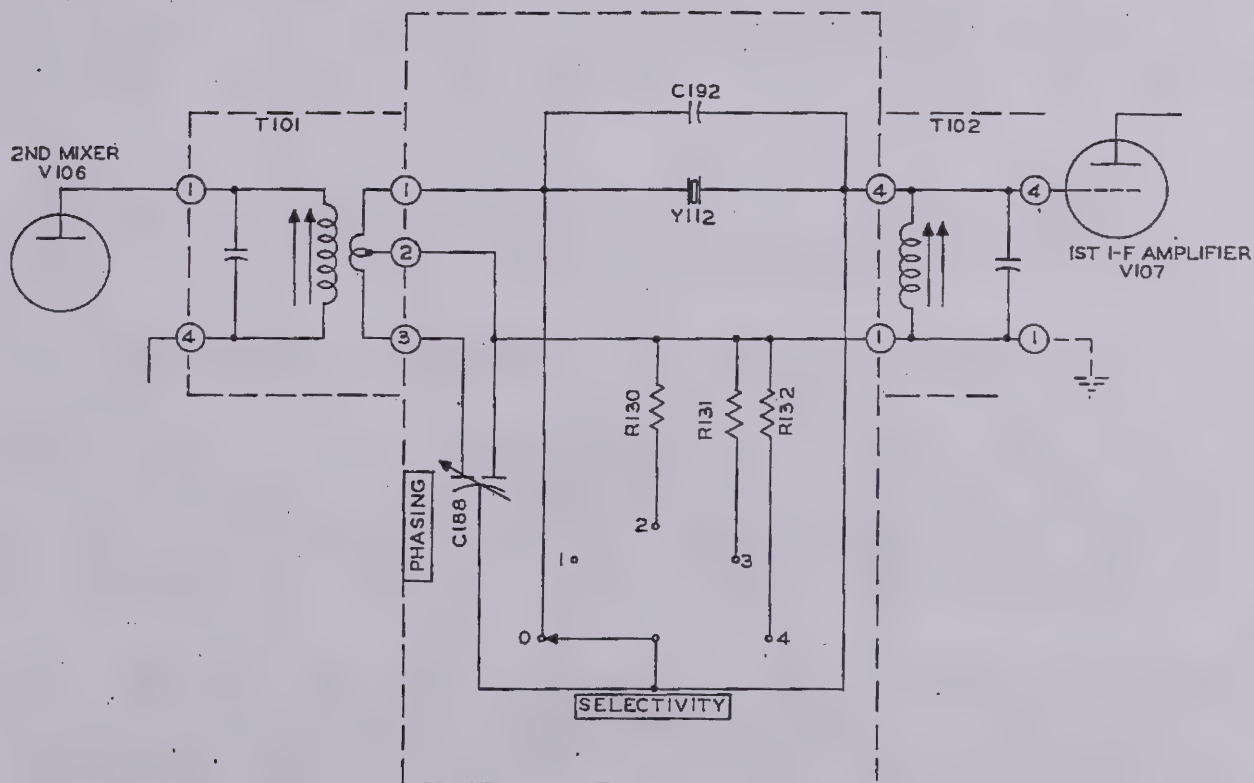

Figure 4-4. 51J-3 Crystal Filter
4.2.7. CRYSTAL FILTER. - Selectivity of the 51J-3 receiver is improved greatly by use of a crystal filter in the 500-kc i-f channel. The crystal filter circuit consists primarily of 500-kc i-f input transformer T101, a 500-kc crystal, and a high impedance tuned circuit T102, connected as shown in figure 4-4. When SELECTIVITY switch S114 is in position 0 the crystal is shorted and T101 is connected directly to T102. Thus there is no crystal filter action when S114 is in position 0; selectivity is determined by the receiver's tuned circuits alone. When S114 is in any other position, crystal filter action takes place--position 4 giving the greatest selectivity.